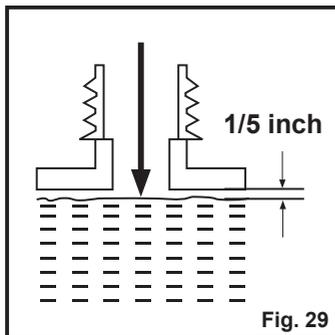

Fig. 29
- Check the oil level through oil tank window (Quick View Oil Indicator) prior to switching on and regularly during operation. Refill oil when the oil level is lower than the "MIN" mark (Fig. 29).